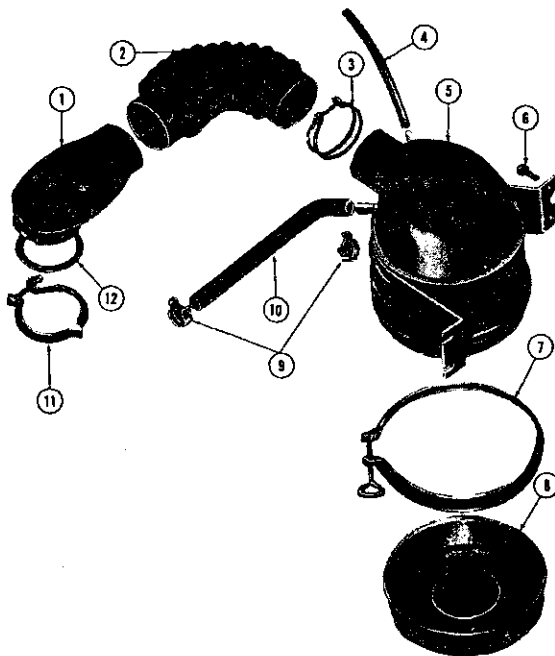

FIG. B-5—OIL BATH AIR CLEANER — HURRICANE F4 ENGINE
a. To service the air cleaner on vehicles equipped with the Hurricane F4 engine (Fig. B-5) unscrew the eye bolt on the oil cup clamp and remove the oil cup from the cleaner body. Remove the oil from the cup and scrape all dirt from the inside, wash cup clean using a cleaning solution if necessary. In summer refill the oil cup with 1½ pints [0,6 ltrs.] of SAE-40 or 50 grade engine oil. In winter refill using grade SAE-20 engine oil. For servicing the air cleaner body (less oil cup), loosen hose clamp and remove hose from the cleaner. Remove the two wing screws and lift the cleaner from the vehicle. Agitate the cleaner body thoroughly in cleaning solution to clean the filtering element. Dry element with low pressure compressed air. Reinstall the cleaner body and replace the oil cup. Service the air cleaner every 2000 miles [3.200 km.].